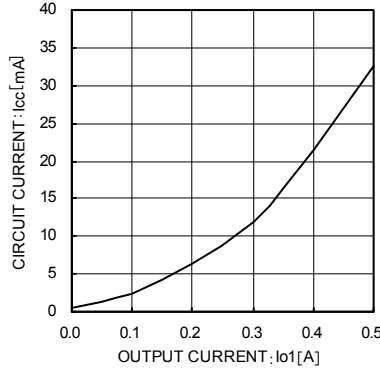

Fig. 14 Circuit Current vs Load Current I_{O1} (I_{O1} = 0 → 500 mA)
- Power consumption due to circuit current: $Pc3 = Vcc \times Icc = 5 \times 0.0085 = 0.0425 (W)$ (See Figs. 14 and 15)